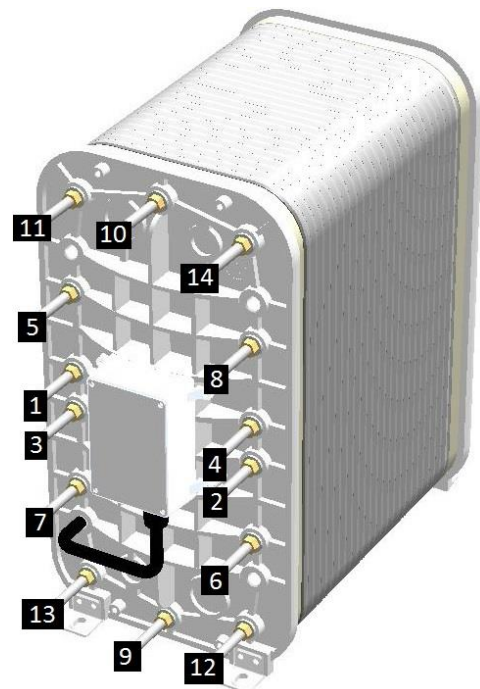

Figure 1: LX Module Tightening Sequence
If the nuts on the threaded tie bars have loosened during shipment, the pressure from the incoming water can cause permanent damage. In addition, inadequate torquing can contribute to lower salt removal and performance. Therefore the bolt torque must be checked and the module tightened as required before flowing water into the module. (Refer to Figure 1) Re-torque as required. Not all modules will need re-torquing.
Sequence: Figure 1 shows the sequence in which to re-torque the tie bars. Start the torquing process with # 1, and finish with # 14.
2. Set the torque wrench to **15 ft-lbs (20 N-m)**. Using the 19 mm extra deep socket (IONPURE part number W2T210908) mounted on the torque wrench, turn all 14 tie-bar hex nuts (anode end) to 15 ft-lbs (20 N-m) following the sequence in Figure 1.
3. Re-set the torque wrench to **25 ft-lbs (34 N-m)** and tighten all 14 tie-bar hex nuts (anode end) to 25 ft-lbs (34 N-m) following the sequence in Figure 1.